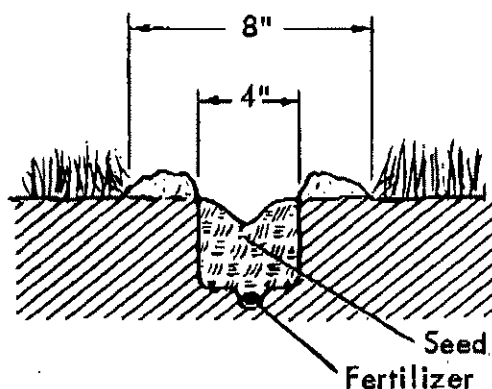

FIG. 1 Using Spreader Wings and Pulverizing Seal
- FIG. 1** Soil shown after using spreader wings and pulverizing seal. This makes planting seed in heavy sod possible. The spreader wings set back the competition and give the seed a chance to germinate.